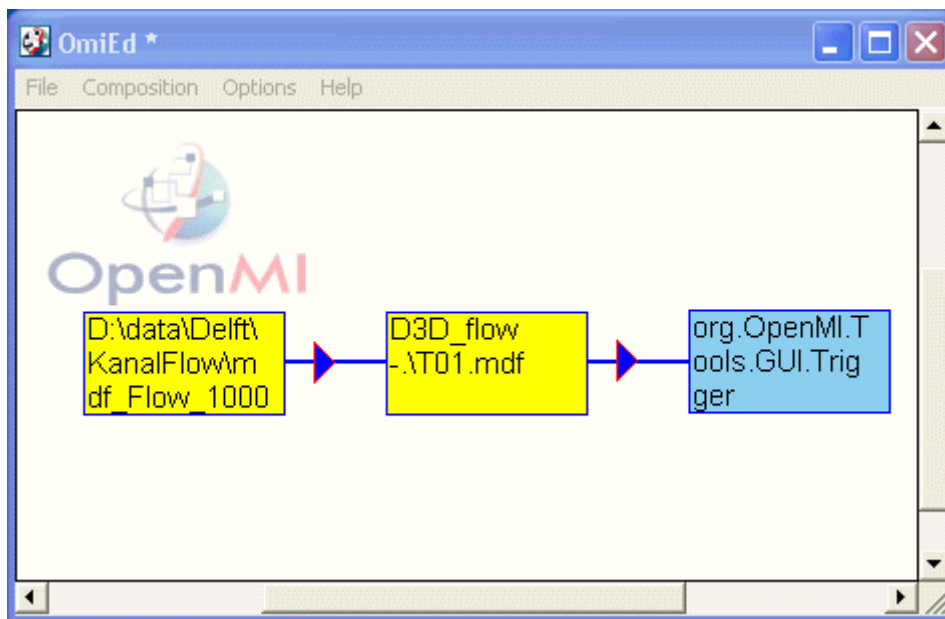

Fig. 15: Adding a trigger
2. Add a connection from the model that is to be run first to the trigger (Fig. 15).